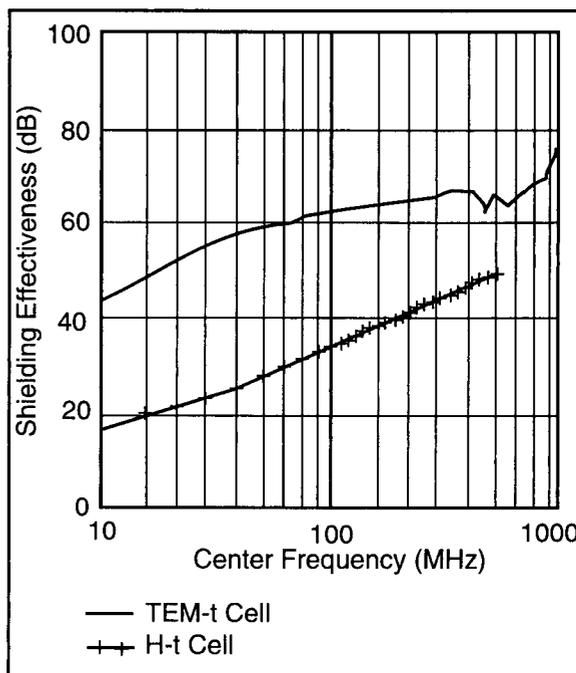

Figure 3. SE Results for Non-woven Metallized Material.
A copper-coated nylon non-woven material with a final weight of 42 grams/m2 and containing 20% (W/W) copper metal has been tested for its behavior against transient electromagnetic waves. The material can be used in the construction of shielded enclosures and rooms. The test results for the material are shown in Figure 3. It should be noted that due to the construction and the characteristics of the TEM-t cell, the values below 50 MHz are not accurate in this case because of the dynamic range of the measuring equipment used. Therefore a typical shielding effectiveness (SE) value of 65 dB is estimated for far-field or plane-wave conditions. H-t magnetic field SE values are based on only 3-mm distance between the small loops and the sample. This explains the relatively low SE values obtained for the frequency range from 10 MHz to 500 MHz. However, an estimation of the MIL-STD-285 magnetic field SE values is possible.